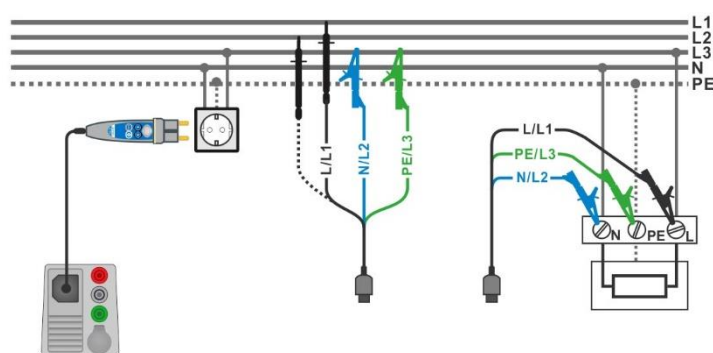

Figure 7.55: Phase-neutral or phase-phase line impedance measurement – connection of Plug commander and 3-wire test lead
- › Connect 3-wire test lead or Plug commander to the object under test, see **Figure 7.55**.